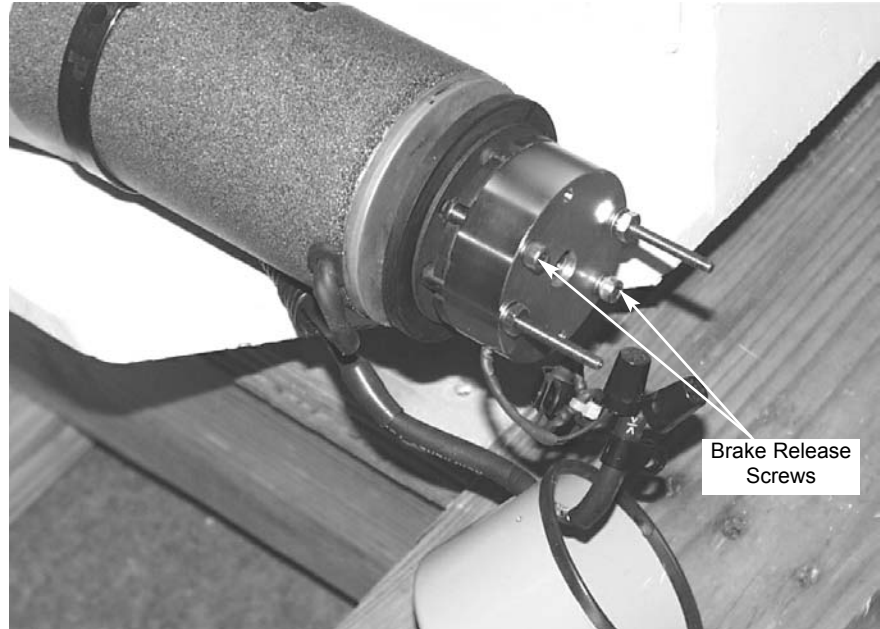

Figure 7. Brake Release Procedure.
Step 4 Using a 5/32" Allen wrench, turn the two manual release screws counter-clockwise until the brake releases (Figure 7).